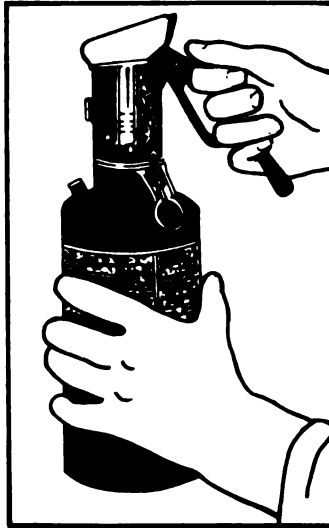

Figure 2
b. Grasp the M11 in one hand (fig. 2) and lift up on the charging handle with the other. You should hear a hissing noise which indicates the compressed gas from the nitrogen cylinder has entered and charged the M11.